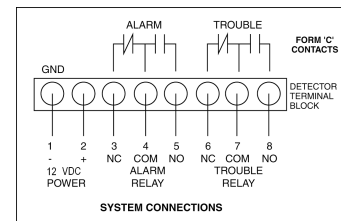

Figure 5
9.5.3 Pull wires through hole at center of alarm base and connect to the internal terminal block as shown on the following wiring diagrams (see Figure 5).